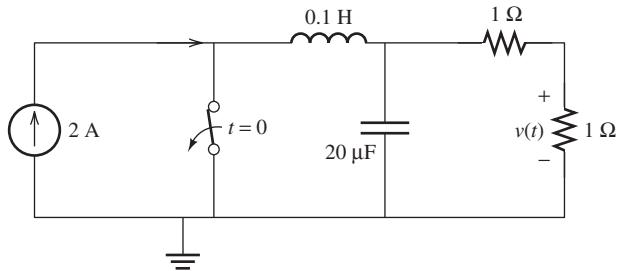

FIGURE P5.59 Circuit for Problem 5.59.
- 5.59** (A) Consider the circuit shown in Figure P5.59. The switch is opened at $t = 0$, find $v(0^+)$ and $v(\infty)$ using PSpice.